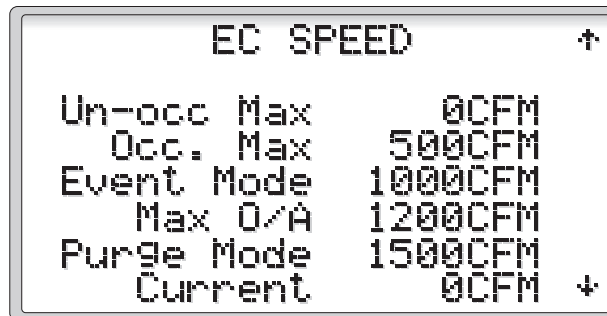

Figure 25
2.2.3.5 EC Speed Settings (Figures 25, 26, 27 and 28)
The EC Speed Settings screen allows modification of the exhaust fan control. Figure 25 details the CFM settings in the un-occupied, the occupied, the Event, the Max OA and the Purge mode. Please note that the Event, Max OA and Purge may not be used on all energy recovery units. The minimum CFM of the unit is also set here. The current CFM is shown for reference at the bottom of this screen.